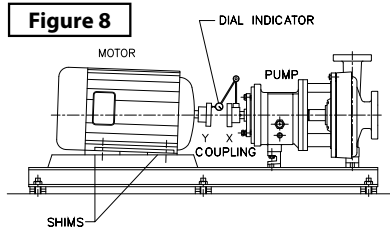

Figure 8
**Vertical:** Consists of installing a dial indicator (see Figure 8) in the top half of the coupling "X" leaving it fixed, then coupling "Y" is halfway rotated. If reading exceed 0.002" (0.05 mm ), this means that the motor is offset from the top down, install shims at the motor feet to correct the readings.